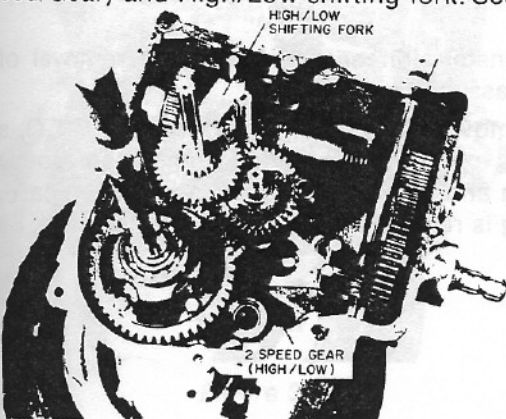

Figure 20
25. Transmission prior to the removal of the High/Low (2 Speed Gear) and High/Low shifting fork. See fig. 20.